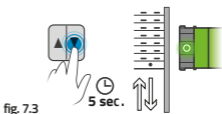

fig. 7.3
6. Press and hold the DOWN button for about 5 seconds – the tubular motor will make some DOWN/UP moves - fig. 7.3.